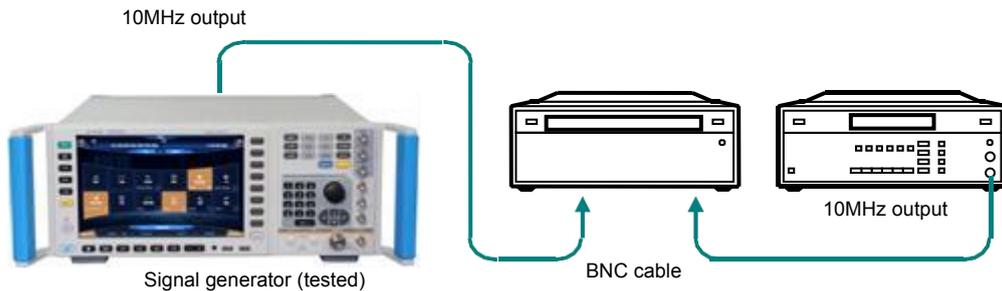

Fig.7.3 Internal Time Base Aging Rate Test
**Step 1. Power on and reset it, and warm it up for at least 30 minutes. Step 2. Connect the device as shown in Fig.7.3.**